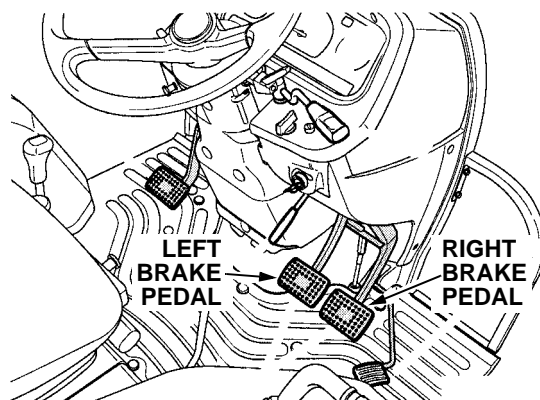

Figure 12
- The right (outer) brake pedal engages only the right brake assembly. Refer to Figure 12.
- The left (inner) brake pedal engages only the left brake assembly. Refer to Figure 12.